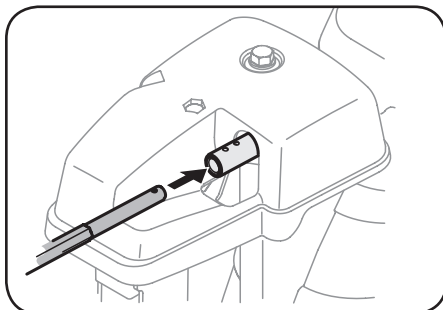

Figure 2-16
2. Insert round end of the chute control rod (hole pointing upward) as far as possible into chute control assembly. See Figure 2-16.